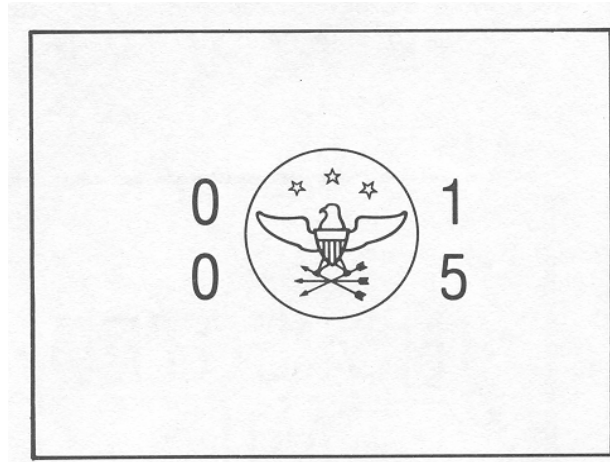
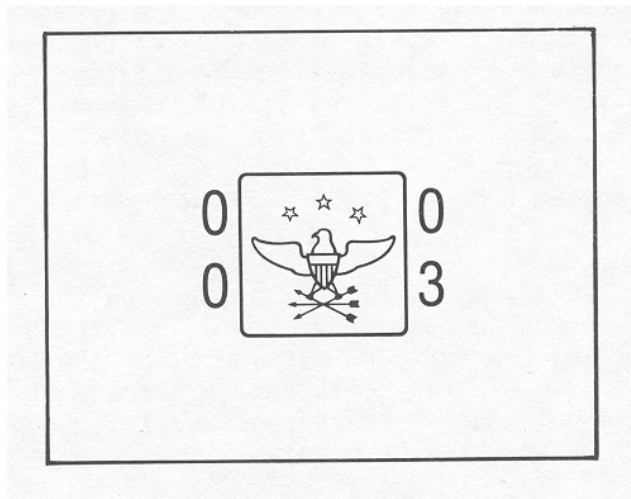

Figure 2-1. Partial inspection approval stamp.
Figure 2-2. Complete inspection approval stamp.
a. **Partial Inspection Approval Stamp.** The partial inspection approval (PIA) impression stamp is characterized by a circle surrounding an eagle in the center of the stamp (figure 2-1). As is implied by its name, further inspection is required on the food product. The PIA stamp is used on category I, (at origin) inspections. The PIA stamp does not indicate that the food products have been accepted by the government. The PIA indicates that the product meets specific contractual requirements.
b. **Complete Inspection Approval Stamp.** The CIA stamp has a square design surrounding an eagle in the center of the stamp (figure 2-2). This is easily distinguished from the PIA stamp, which has a circular design. The name of the stamp indicates that the inspection is complete and that the food has been accepted by the government. The CIA stamp is used on receipt inspections, (Category II) on delivery at purchase inspections. The CIA stamp is used during the final inspection of the food product prior to transfer of ownership from the contractor to the government. Acceptance on behalf of the government is normally accomplished by placing the CIA stamp impression on the contractor's manifest or invoice, which accompanies delivery of the food product.
b. When given a blank DOD PIA or CIA procurement stamp, the registration number of the stamp is located on both sides of the center design. The stamped impression will be read from bottom left to top left, to top right to bottom right. The registration number of the four-stamp impression in figure 2-2 and 2-3 is 0003. In figure 2-1 it is 0015.
(1) The first set of four numbers on the top line above the DOD insignia indicates the Inspection Responsibility Code (IRC). Inspection Responsibility Codes are found in Section II of the HQDA (DASG--VCP) letter, subject: Location of Military Personnel Available for Inspection and Services. The Surgeon General is responsible for the publication of this "location list." Inspection Responsibility Codes are as follows: